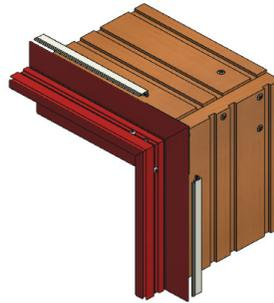

Figure 1a
- a. Place accessory retainer clips (2) in universal frame groove. Apply one clip 25mm from each corner and move inward. Applying additional clips at a maximum spacing of 500mm. (Figure 1a & 1b)